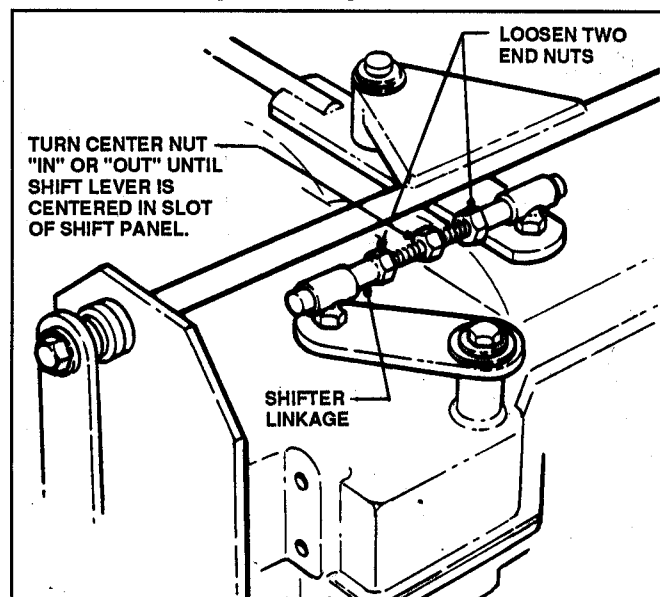

FIGURE 38
- A. Loosen the two end nuts on the shifter linkage. See Figure 38.